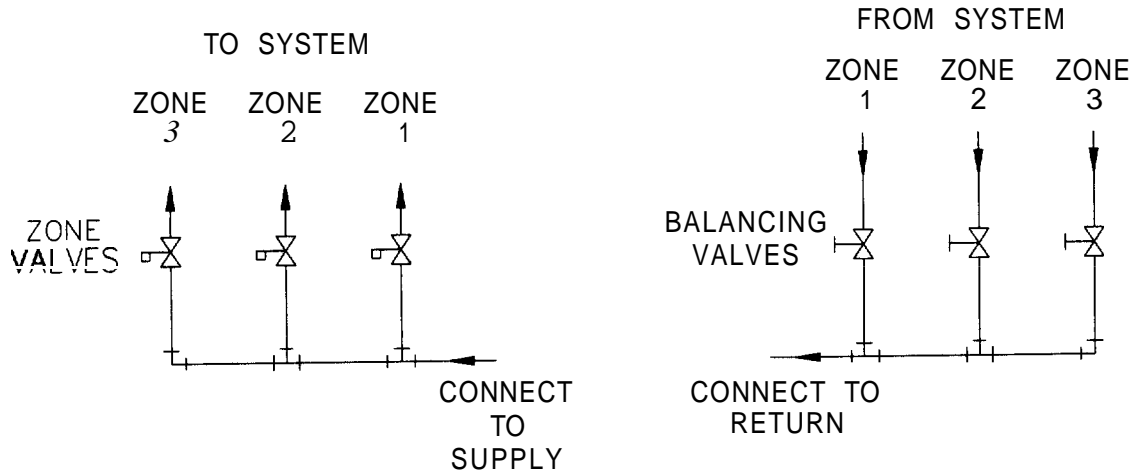

Figure 5: Zone Piping with Zone Valves
1. See Figures 5 and 6 for basic zoned system layouts.